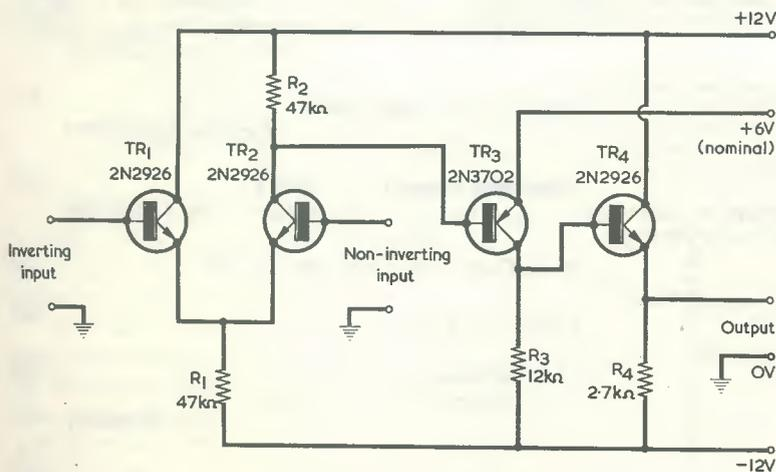
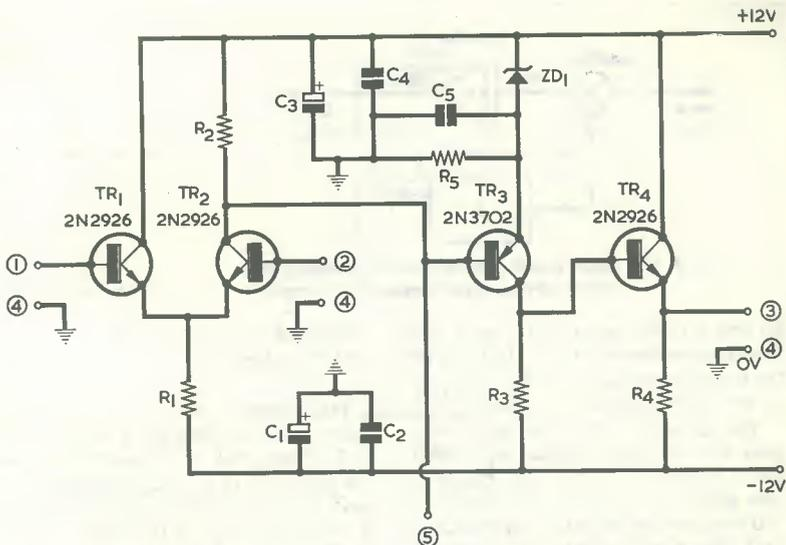
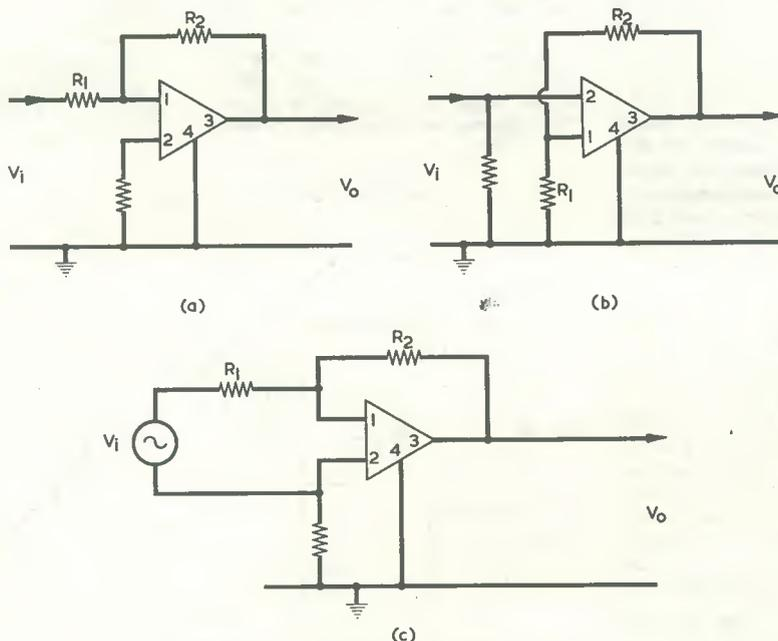

Fig. 1. The basic amplifier circuit diagram
Fig. 2. The complete practical circuit for the amplifier. This is the diagram referred to in subsequent amplifier circuit arrangements
Fig. 5 (a). Inverting amplifier circuit
amplifier is shown in Fig. 1, and it consists of a differential pair input stage, TR₁ and TR₂, followed by a common emitter stage, TR₃, and emitter follower output, TR₄. D.C. conditions are arranged so that inputs and outputs are at earth potential, and external negative feedback can be used from the output back to the inverting input to set gain and d.c. conditions. Since the amplifier has unity gain at 10 Mc/s it is advisable to decouple the supply lines at the board (or chassis) on which it
The practical version of Fig. 1 is shown in Fig. 2, and this incorporates the nominal 6V supply and decoupling components just mentioned. All the circuits which follow in this article are based on the amplifier of Fig. 2. It will be noted that a single 12V supply is required, and that this is "floating" with respect to earth. Total consumption from the 12V supply is of the order of 5mA.
Typical performance figures for the amplifier of Fig. 2 are:—
In our case the feedback network will take the form of a voltage divider to the inverting input, and Fig. 5 shows the arrangements for (a) inverting amplifiers, (b) non-inverting amplifiers, and (c) differential amplifiers. In each instance the amplifier of Fig. 2 is indicated by the amplifier block symbol, the numbers in the block indicating the connections to terminals (1), (2), (3) and (4).
5 (a), gain is $\frac{R_2}{R_1}$ and input impedance is R_1 . Fig. 5 (b) shows the non-inverting arrangement and gain is $\frac{R_2}{R_1} + 1$. The differential input amplifier arrangement of Fig. 5 (c) gives a gain of $\frac{R_2}{R_1}$.